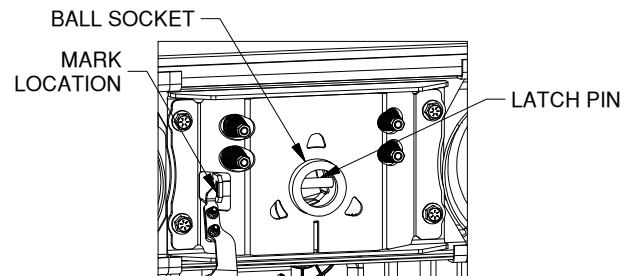

Figure G1: View under bed looking up at center section.
6. **Check latch pin engagement.** When installed properly, the latch pin mechanism should pass through both sides of the ball socket. With the ball removed, push handle toward the rear of the truck until the handle retracts and the latch pin engages. Visually inspect the ball socket and check to be sure the latch pin has passed completely through the socket. Make a mark on the latching mechanism where indicated in Figure G1 to show where the latching mechanism should be when the pin is correctly positioned in the ball socket. Retract the pin, replace the ball, and re-engage the pin. Check the marked location on the latching mechanism. If the mark is in the same location as when the mark was made, then the latch pin has gone completely through the ball socket.